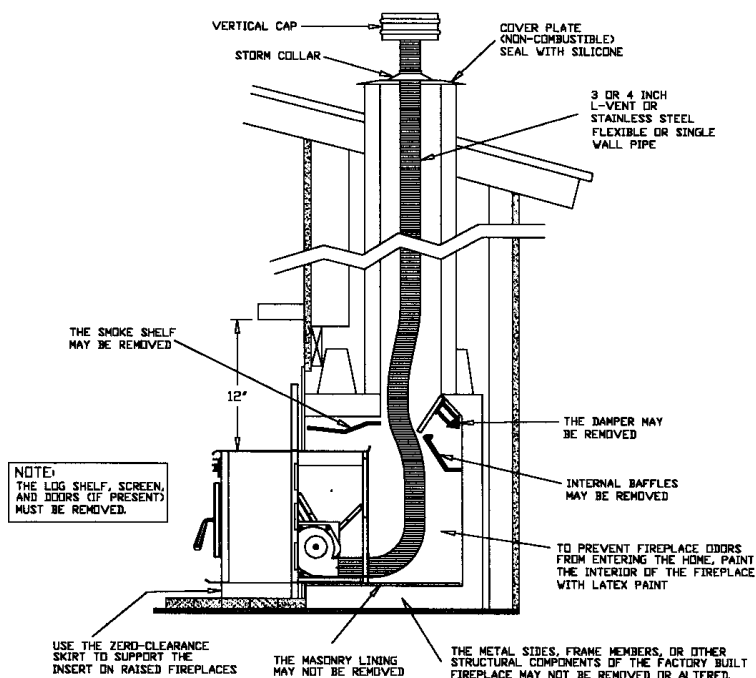

FIGURE 20
E. INSTALLATION IN TO A FACTORY BUILT FIREPLACE BUILT (METAL) FIREPLACE (Refer to figure 20)